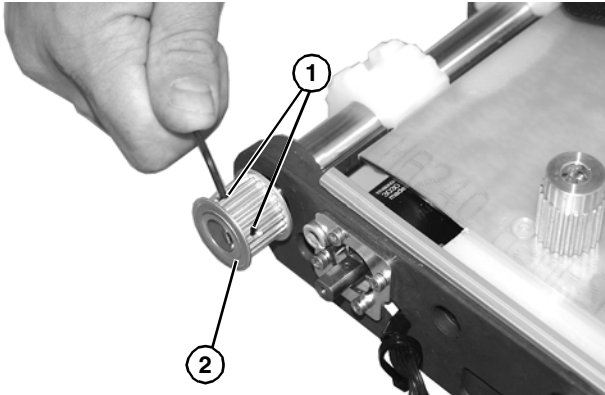

Figure 47
- Loosen two set screws (**Figure 47, item 1**) on driven pulley (**Figure 47, item 2**), and slide off of shaft to remove.
- Remove driven pulley (**Figure 47, item 2**).